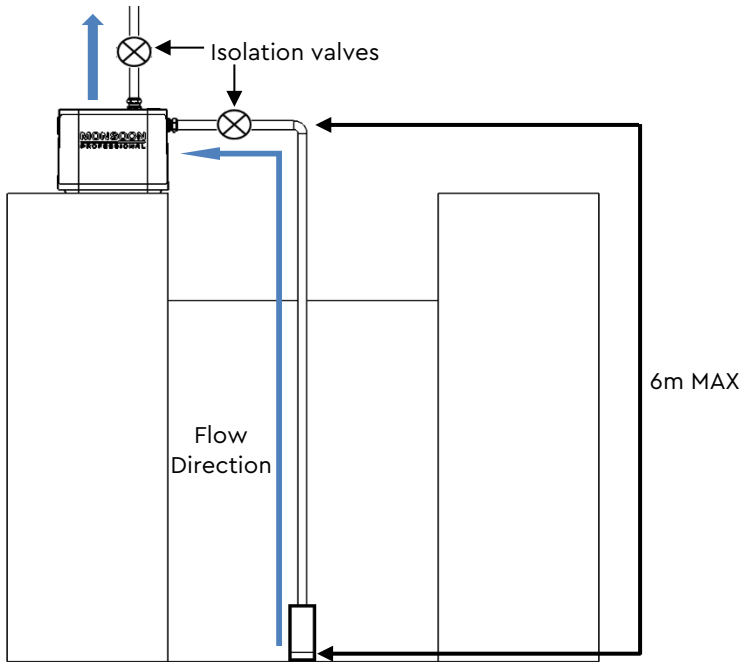

Figure 2 – Suction Lift Install
- **Static inlet pressure:** Before deciding where to locate the unit, check to ensure the static inlet head between pump and the bottom of the cold-water tank (Ref Fig. 2) does not exceed the max. inlet head of 30 metres/3 bar.